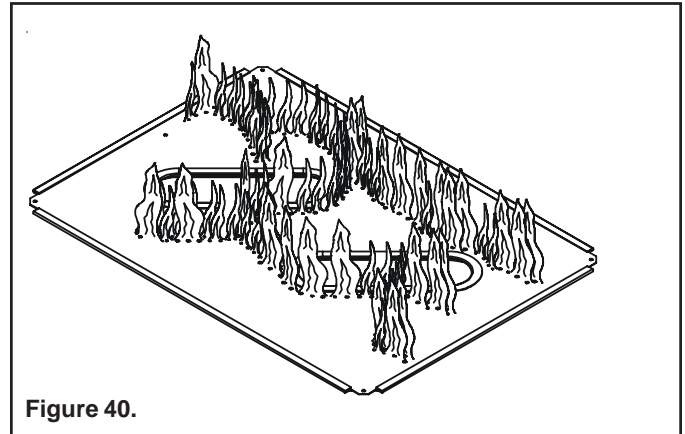

Figure 40.
Visually inspect the pilot periodically. Brush or blow away any dust or linen accumulations. If the pilot orifice is plugged, disassembly may be required to remove any foreign materials from the orifice or tubing. When the appliance is put back in service check burner flame patterns with Figure 40.
- Note carefully how the glass assembly is held in place. Release the four spring latches at the bottom and top of the glass door. Carefully lift the glass up and out away from the appliance. See Figure 40.